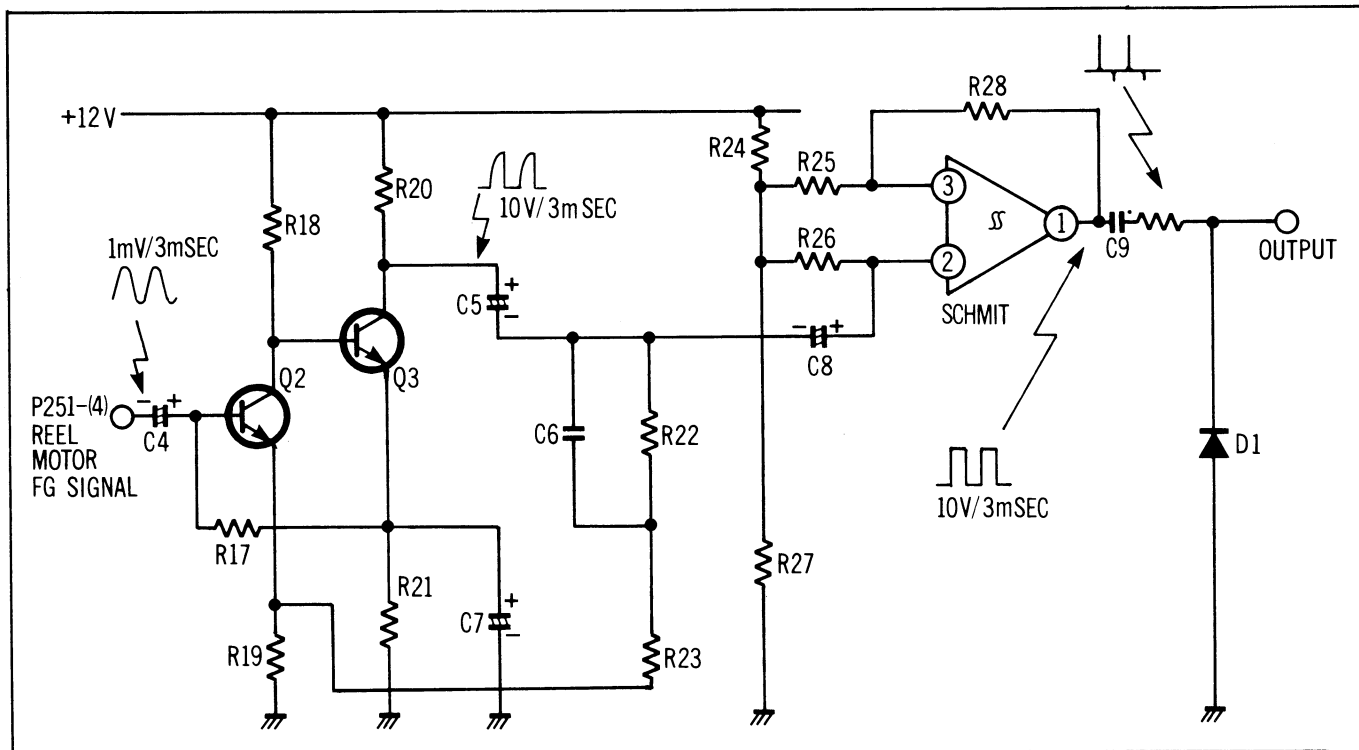

Figure 2-192
The reel motor FG signal from pin (4) of connector P251 is applied to the base of Q2. The FG signal is amplified by Q2 and Q3 as shown in Figure 2-192.